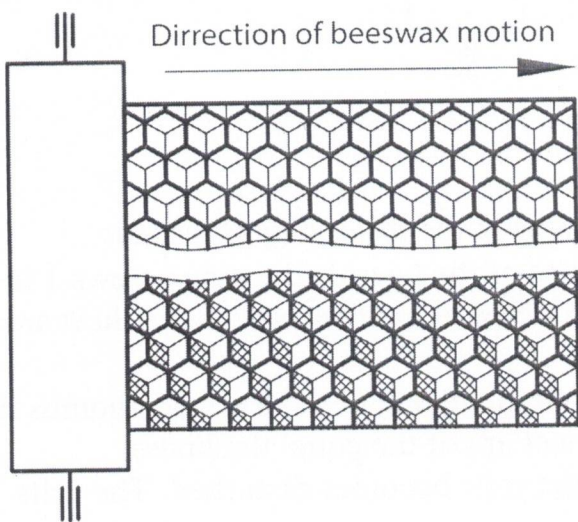

Fig.11
4.3.2. In the rear part of the beeswax honeycomb base sheet the cells are correct, and in the front part, the second or third rhombs of the sell are thicker (Figs 11 and 12)